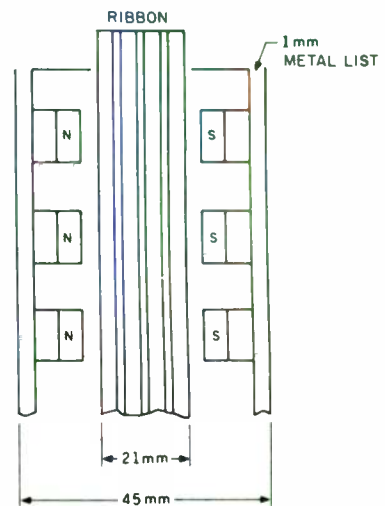

FIGURE 4: Magnet pattern for tweeter.
**Step 7.** The magnet pattern for the tweeter is shown in Fig. 4. Let the left row of magnets on both the right and left tweeters have the same polarity as the top row of magnets on the left woofer. This ensures the left speaker is a reflected image of the right.